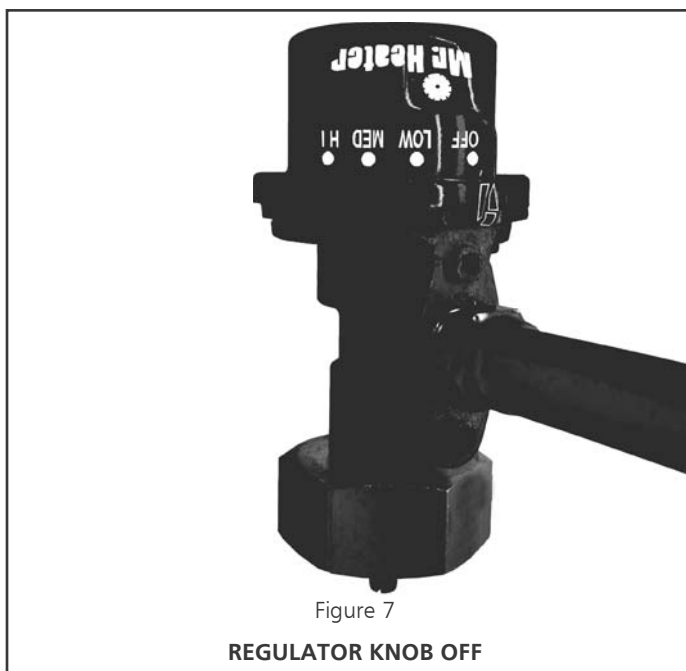

Figure 7
- When shutting off the heater, turn the regulator knob on the heater to "OFF" (clockwise). (See Figure 7).